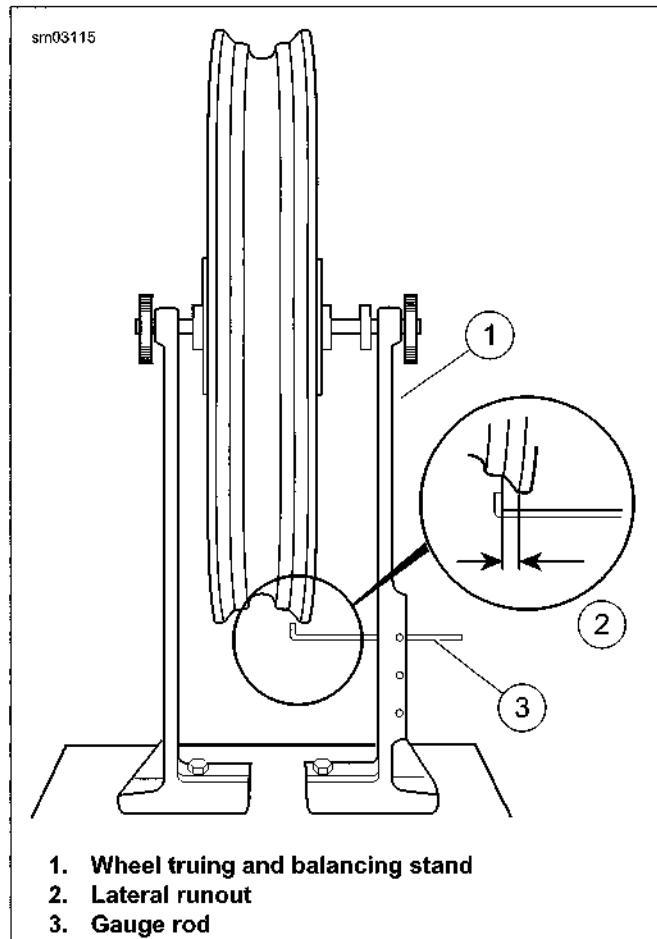

Figure 2-46. Checking Lateral Runout
1. See Figure 2-46. With the wheel mounted in WHEEL TRUING STAND (Part No. HD-99500-80), adjust the gauge rod (3) near the rim bead flange.
2. Rotate the rim slowly and check lateral runout (2). If runout exceeds 0.030 in (0.76 mm), adjust spokes as follows.